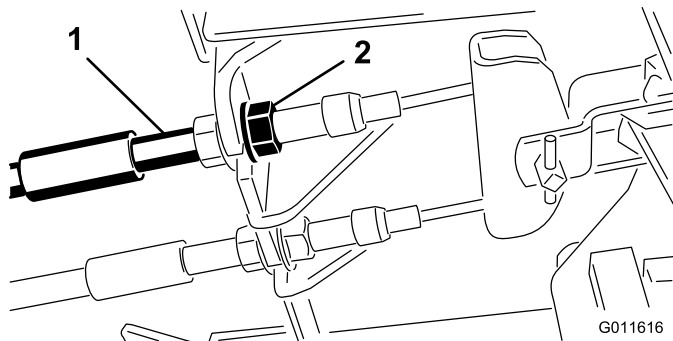

Figure 41
1. To reduce free travel of the brake pedals, tighten the brakes by loosening the front nut on the threaded end of the brake cable (Figure 41).